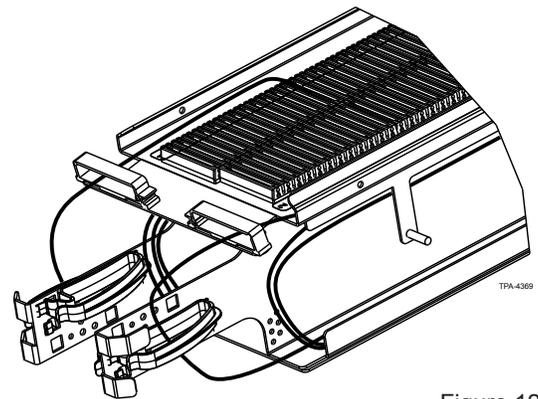

Figure 12
**Step 4:** Open the plastic clip on the splice plane (Clip "C") and lay the fibres inside (Figure 12).